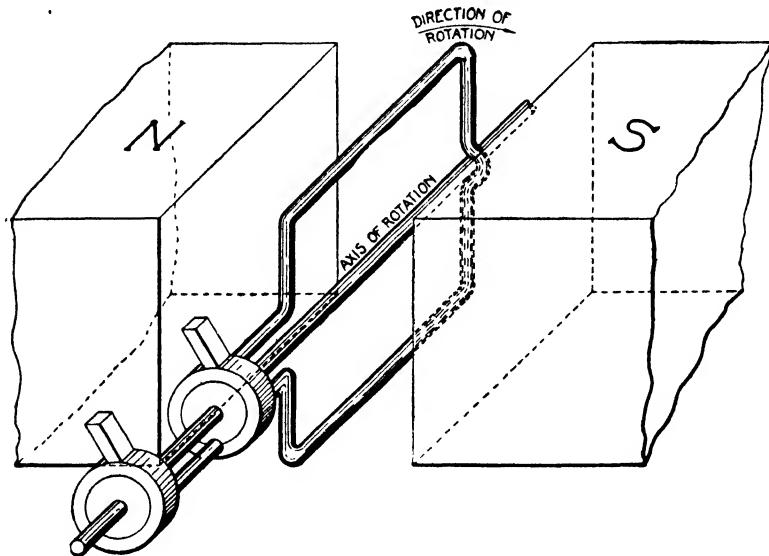

Fig. 11. Simple Alternating-Current Generator
brushes, connected to the external circuit, as shown in Fig. 11. Such a device constitutes a simple alternating-current generator.
**FUNCTION AND OPERATION OF TWO-PART COMMUTATOR.** As the loop of wire in Fig. 11 is made to revolve, an e.m.f. will be induced in it, and this e.m.f. will reverse in direction